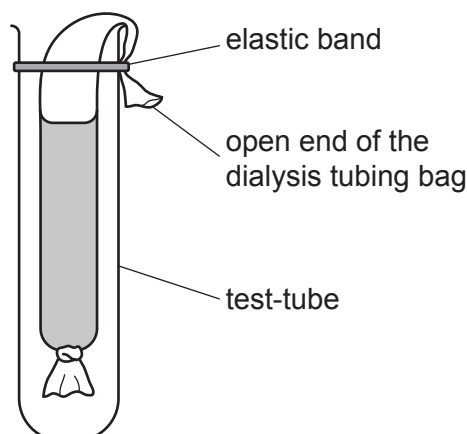

Fig. 1.2
- Step 5 Place the dialysis tubing bag into the test-tube labelled **S**. Fold the open end of the bag over the top of the test-tube and secure with an elastic band, as shown in Fig. 1.2.